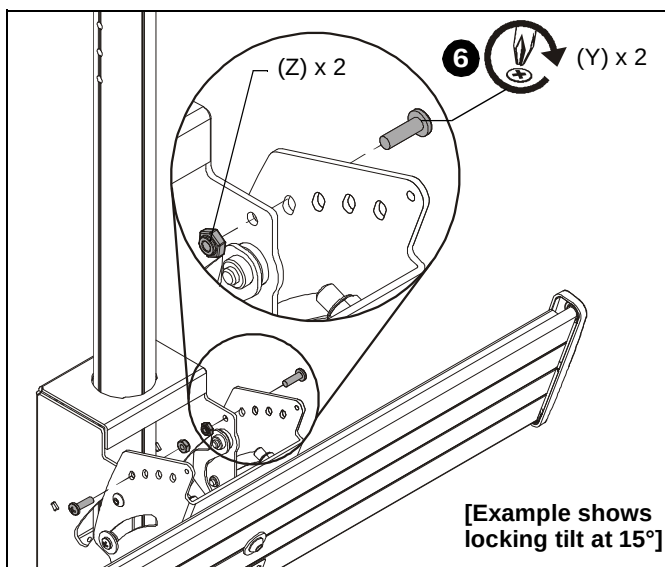

Figure 12
- If using the tilt settings of 0°, 5°, 10° or 15°, insert two 10-24 x 1/2" Phillips head screws (Y) and two 10-24 lock nuts (Z) to lock mount at the specific tilt. (See Figure 12)